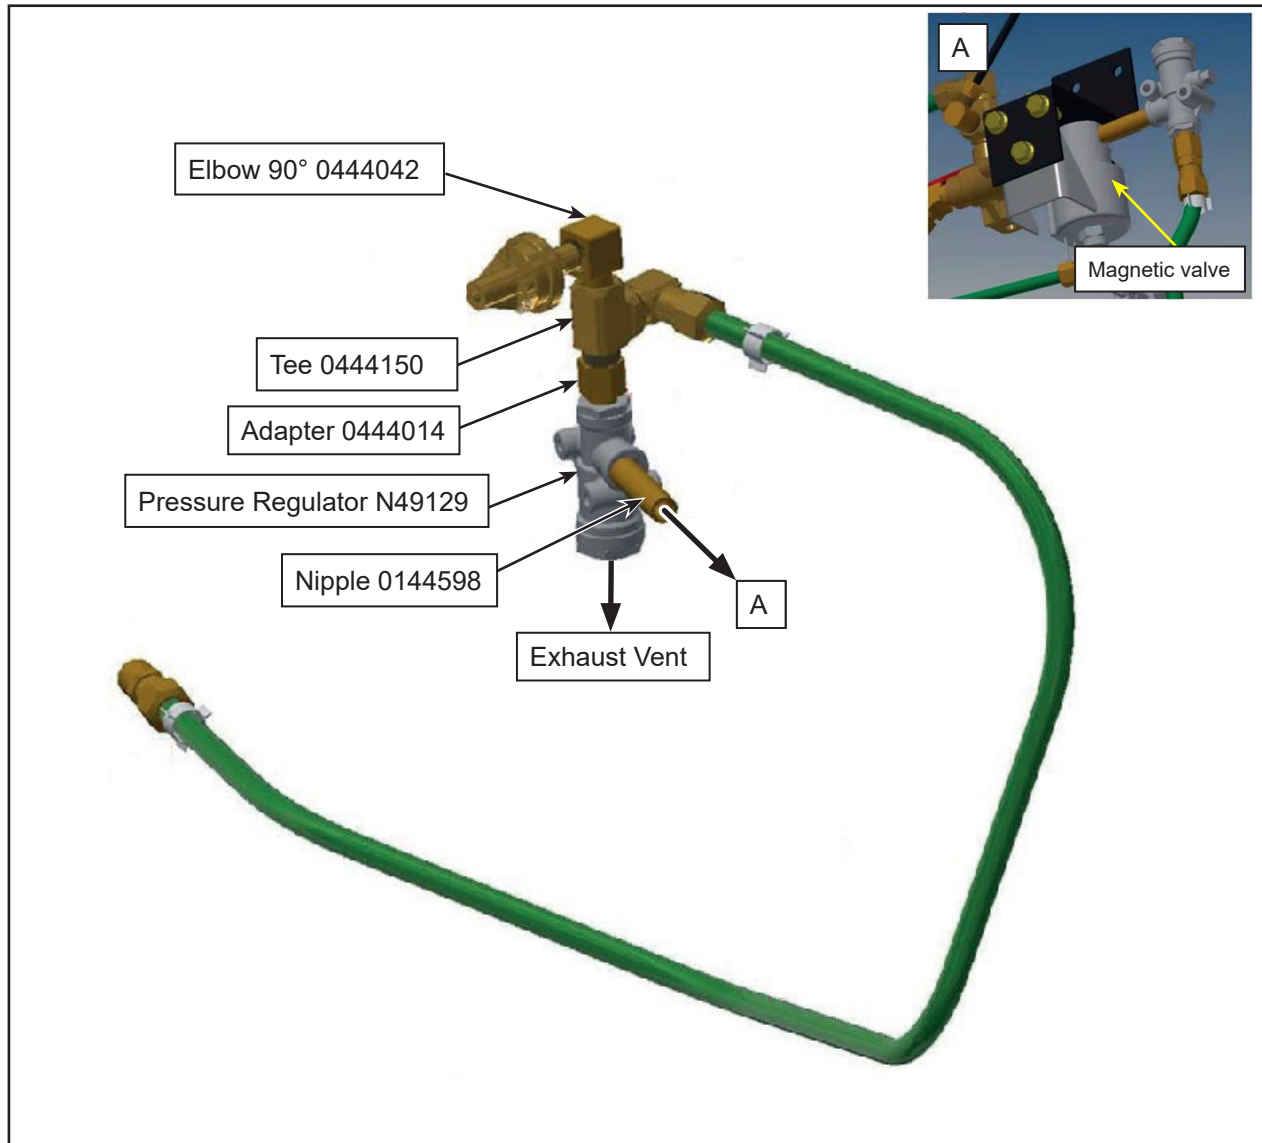

Figure 6 - Installation of New Pressure Regulator
- 1.12. Connect the nipple P/N 0144598 to the new pressure regulator P/N N49129 and to the magnetic valve (see figure 6).
- 1.14. Reinstall tee P/N 0444150 and elbow 90° P/N 0444042 on pressure regulator (see figure 6).